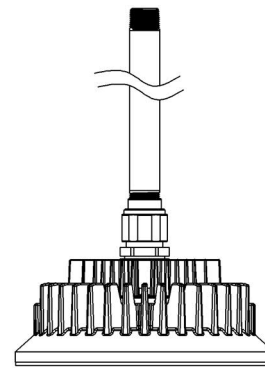

Figure 5
- ☞ Tighten tube locking setscrew to conduit, 1.0 N-m. (Figure 5)